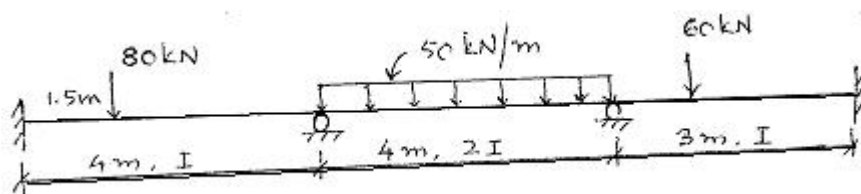

Figure 3
- 13 Draw B.M.D. for the beam show in figure 3 using Kani's method. (10)